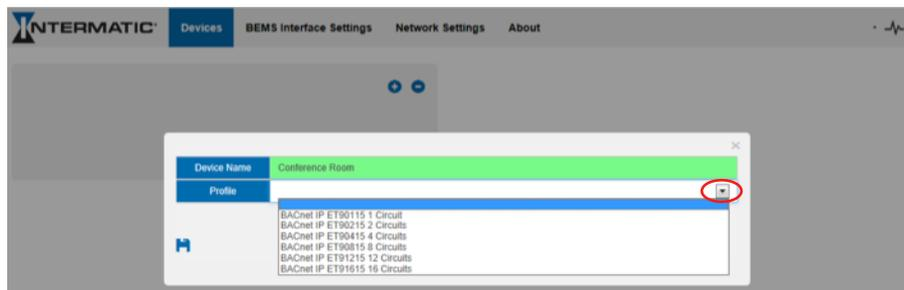

Figure 13: Selecting Profile of Device
- Once device name has been entered, click the down arrow to select the Profile of device connected. Shown in **Figure 13**.